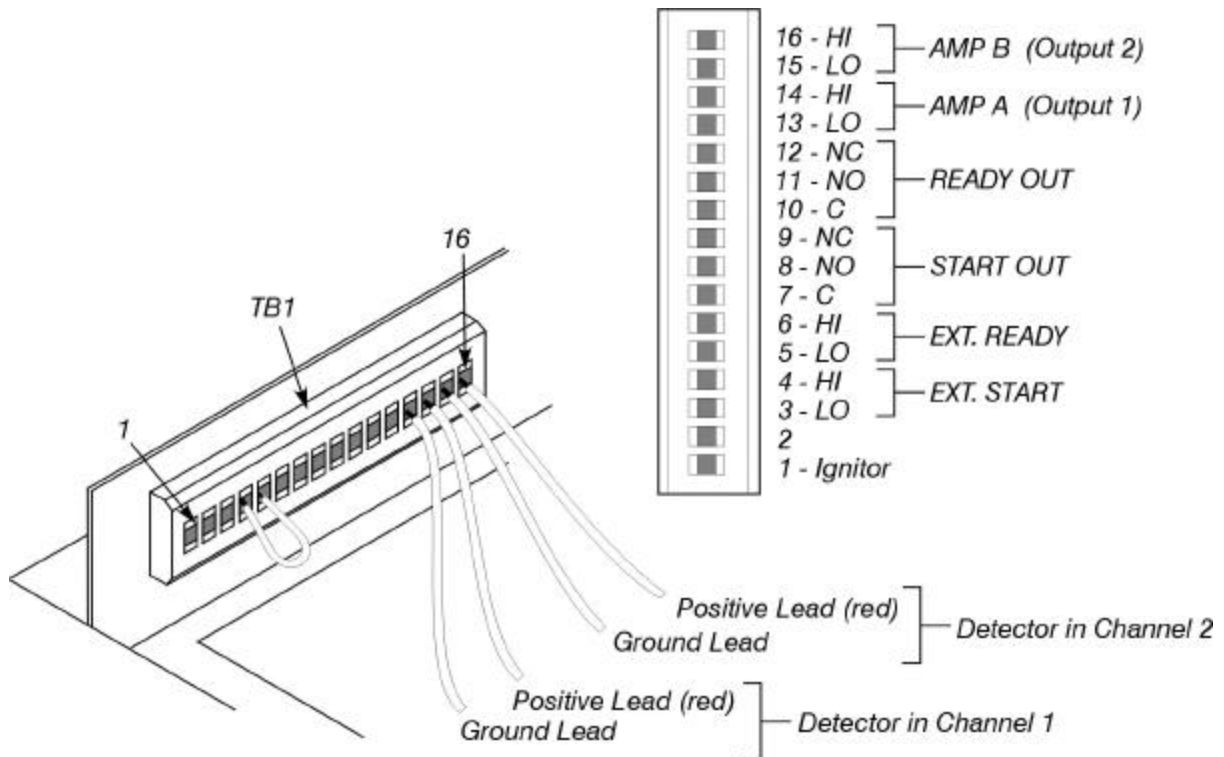

Figure 2- 33 Recorder and integrator connections at TB1.
2. Lift the top deck cover (see Figure 2- 23) to gain access to TB1 (see Figure 2- 33). This is where you will connect the recorder or integrator leads.
3. To connect a recorder or integrator to Channel A, connect the ground lead of the device to TB1-13 and the positive lead of the device to TB1-14. Make sure you route the wires around the strain relief posts as shown in Figure 2- 34.